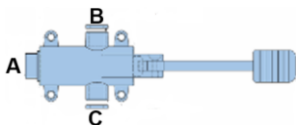

Fig. 8
- Mount the drain valve set at the basin, following the assembly sequence, printed in the accessories bag (Fig.8). Make sure they are well sealed to avoid possible future leaks.